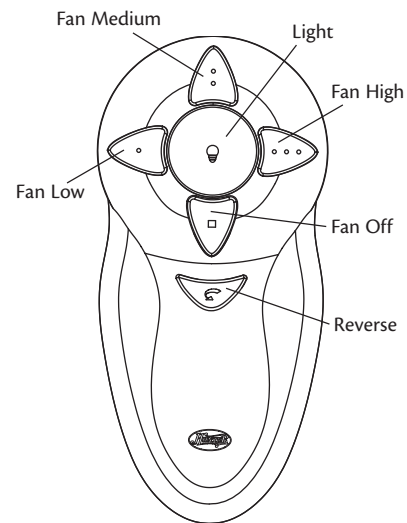

Figure 28 - Using the remote control
6. Within 20 seconds of restoring power, push the Hi, Med, and Lo buttons (in that order). Refer to Figure 28.
Refer to Figure 28 for identification of control buttons.